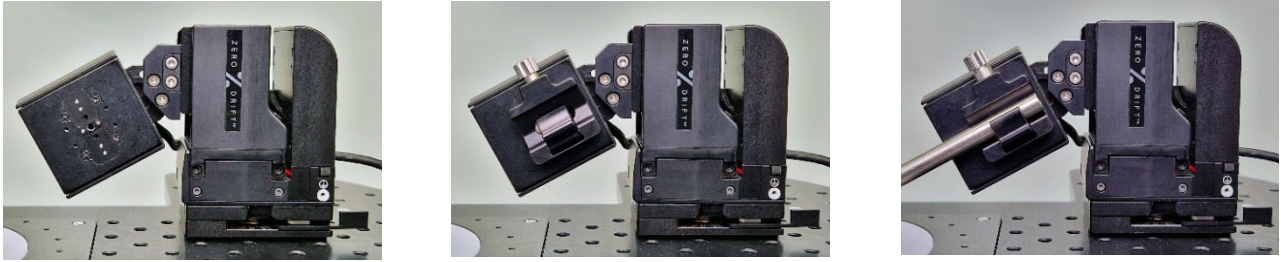

Figure 8. Step-by-step instructions for attaching a rod to uMp-3
uMp-RHL enables mounting 4 – 10 mm diameter rods to the micromanipulator (Figure 8):
- a. Insert provided dowel pins to the micromanipulator x / D-axis (Figure 8, left). These pins will ensure that the uMp-RHL is aligned parallel to the axis motion.
- b. Secure the uMp-RHL in place using the provided screw (Figure 8, middle).
5. Place / slide rod to the uMp-RHL (Figure 8, right).